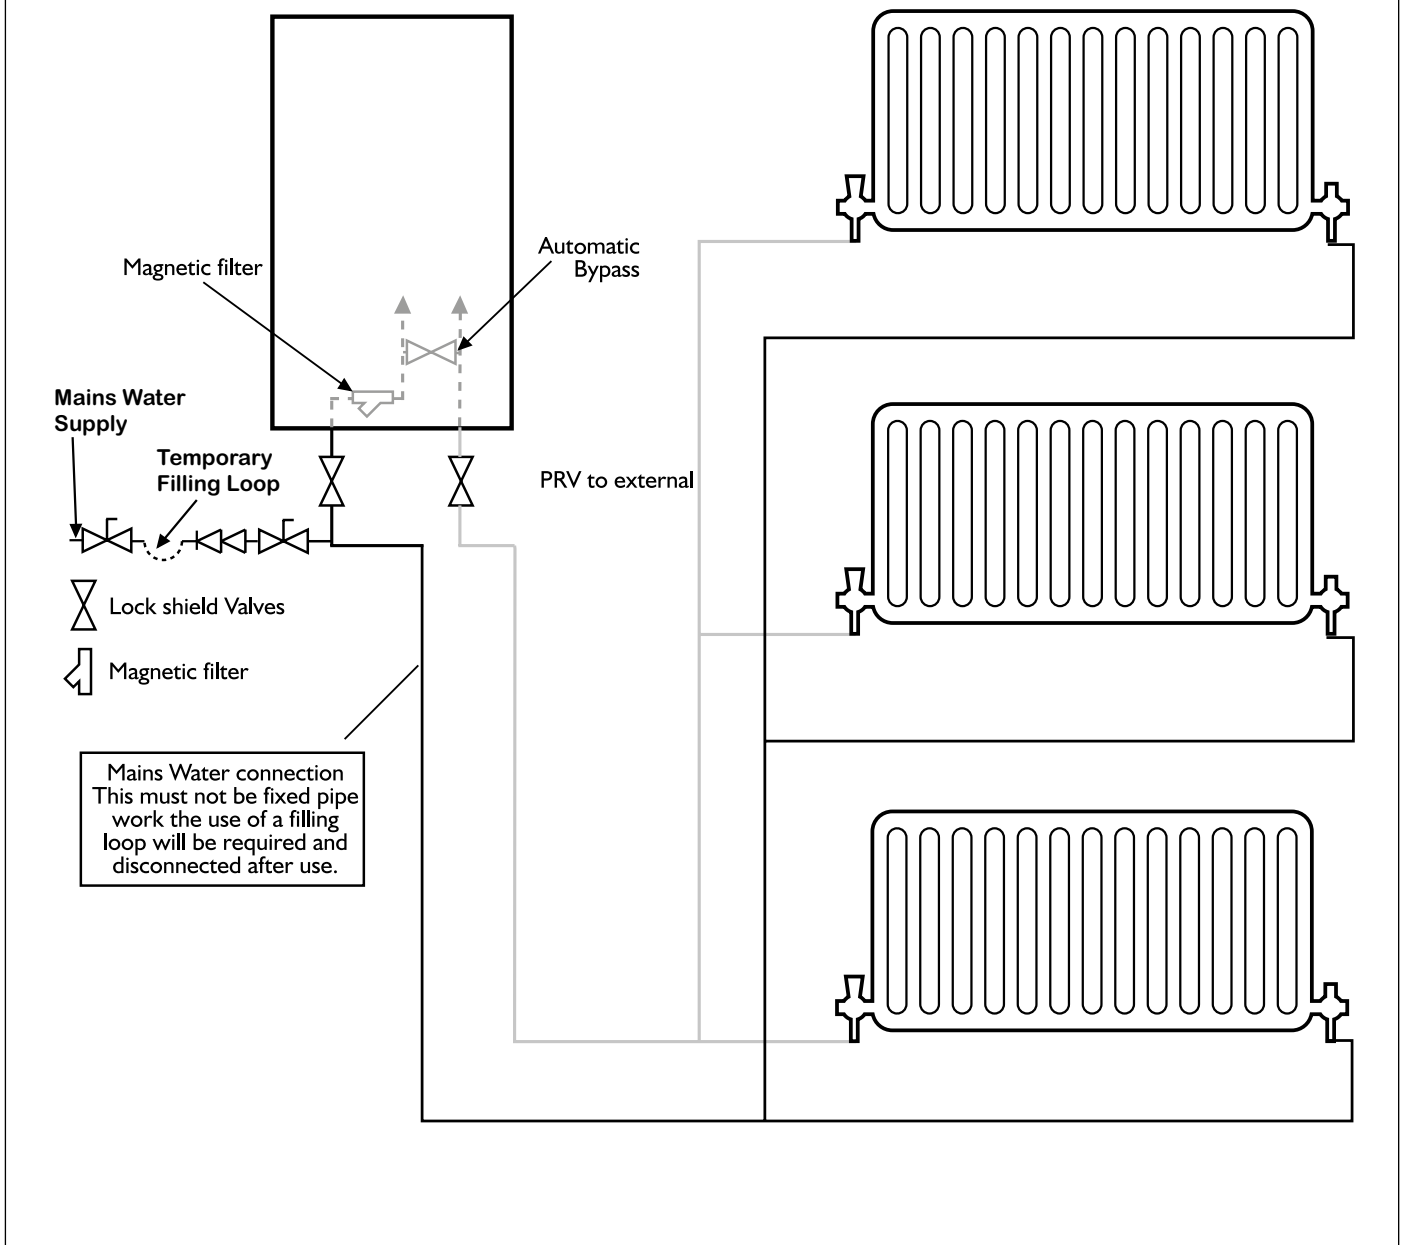

Figure 4
2. Connect the boiler to a heating system that is equipped with isolation valves (see Figures 4 & 5).
3. Fill the heating system with treated water, which will substantially extend the life of the heating coils. See item 14 „System Protection“ below.